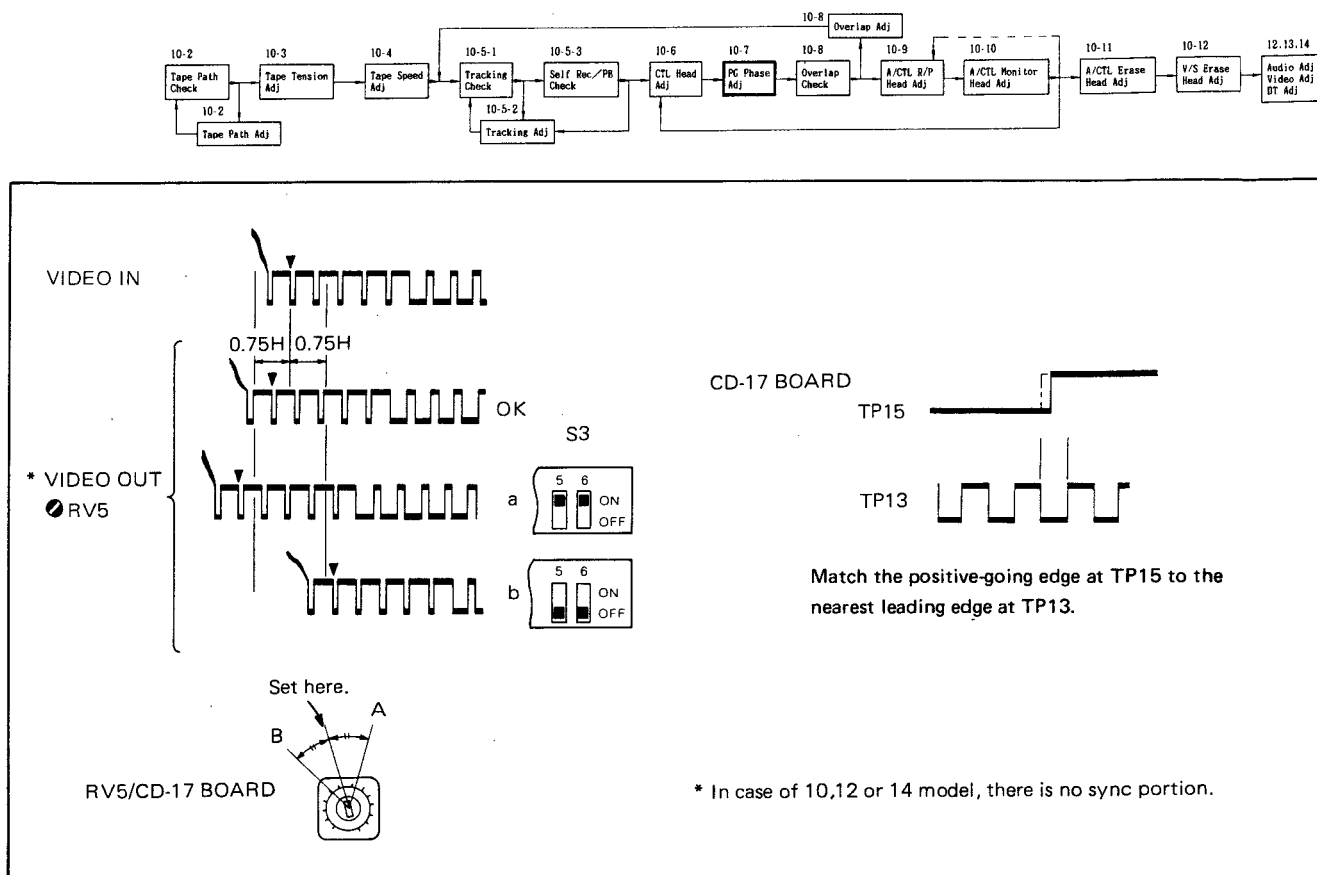

Fig. 10-23. PG Phase Adjustment in Playback Mode with R/P Head
8. Adjust RV5 so that the phase difference between VIDEO IN and VIDEO OUT is within $\pm 0.75H$, as shown in Fig. 10-23.
9. Set RV5 in the middle of positions A and B as shown in Fig. 10-23.